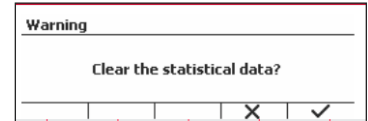

Figure 33
- To clear accumulation results, press the On/CLR button. (See Figure 33)